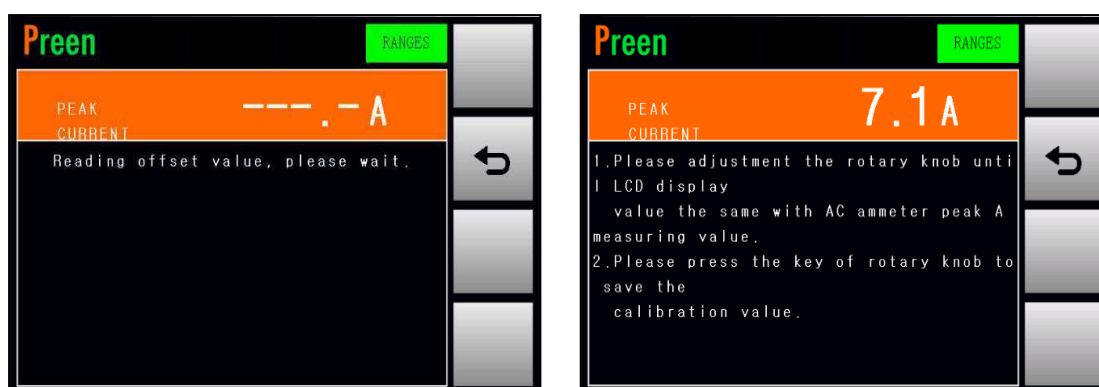

Figure 4-7-2 Enable the calibration of the peak current.
3. Press the output & reset button on the front panel to enable the calibration of the peak current (refer to Figure 4-7-2), and then the product will start to output the voltage which is closed to 100V.